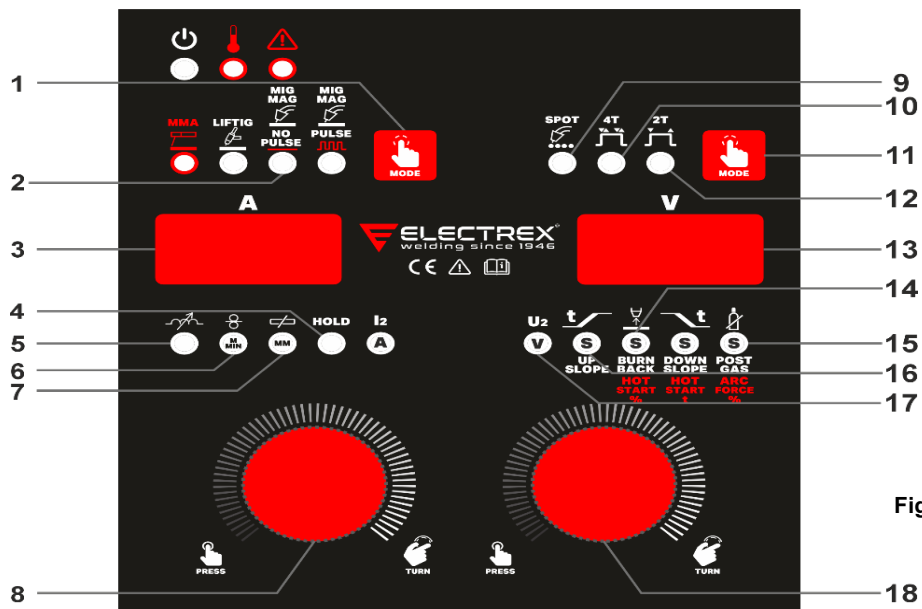

Fig 7.
- Select MIG/MAG welding mode with non-pulsed (2 - Fig. 7) MIG/MAG current. Note: pulsed welding is not available with non-synergic mode.
8.2.1 NON-SYNERGIC MIG/MAG welding parameters (see Fig.7)
MIG/MAG Spot mode (9 – Fig. 7) – When selected indicates that machine is in MIG/MAG Spot welding mode. To select this function, press key 11– Fig.7 until LED 9 lits. Adjust the spot time by pressing right knob (18 – Fig.7) until left display (3 – Fig. 7) shows SPt and turn right some to the desired time. Start spot welding by pressing torch trigger and continuing pressing until the end of welding (see following pages). Start welding.